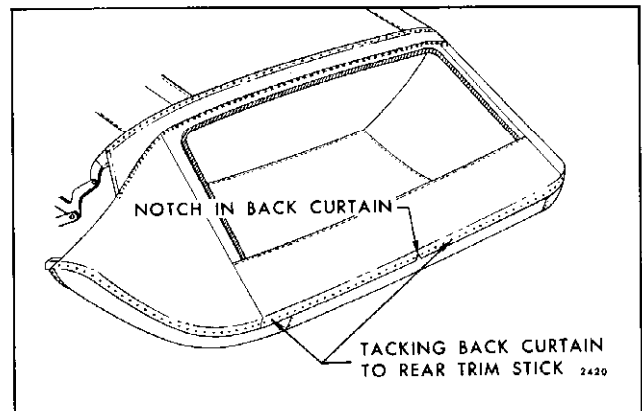

Fig. 13-17 — Back Curtain Installation
- NOTE:** Notch in back curtain material at lower edge indicates centerline of back curtain assembly (Fig. 13-17). In addition, back curtain lower edge should extend approximately 1/2" below lower edge of trim sticks.
8. Tack curtain to rear trim sticks (Fig. 13-17).